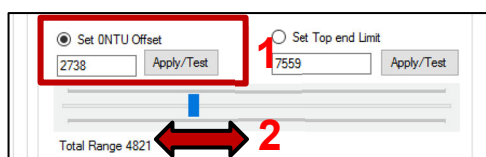

Figure 7.O: Scaling and calibrating 0NTU offset
- Select the option “Set Top-end Limit” (Figure 7.P: #3).